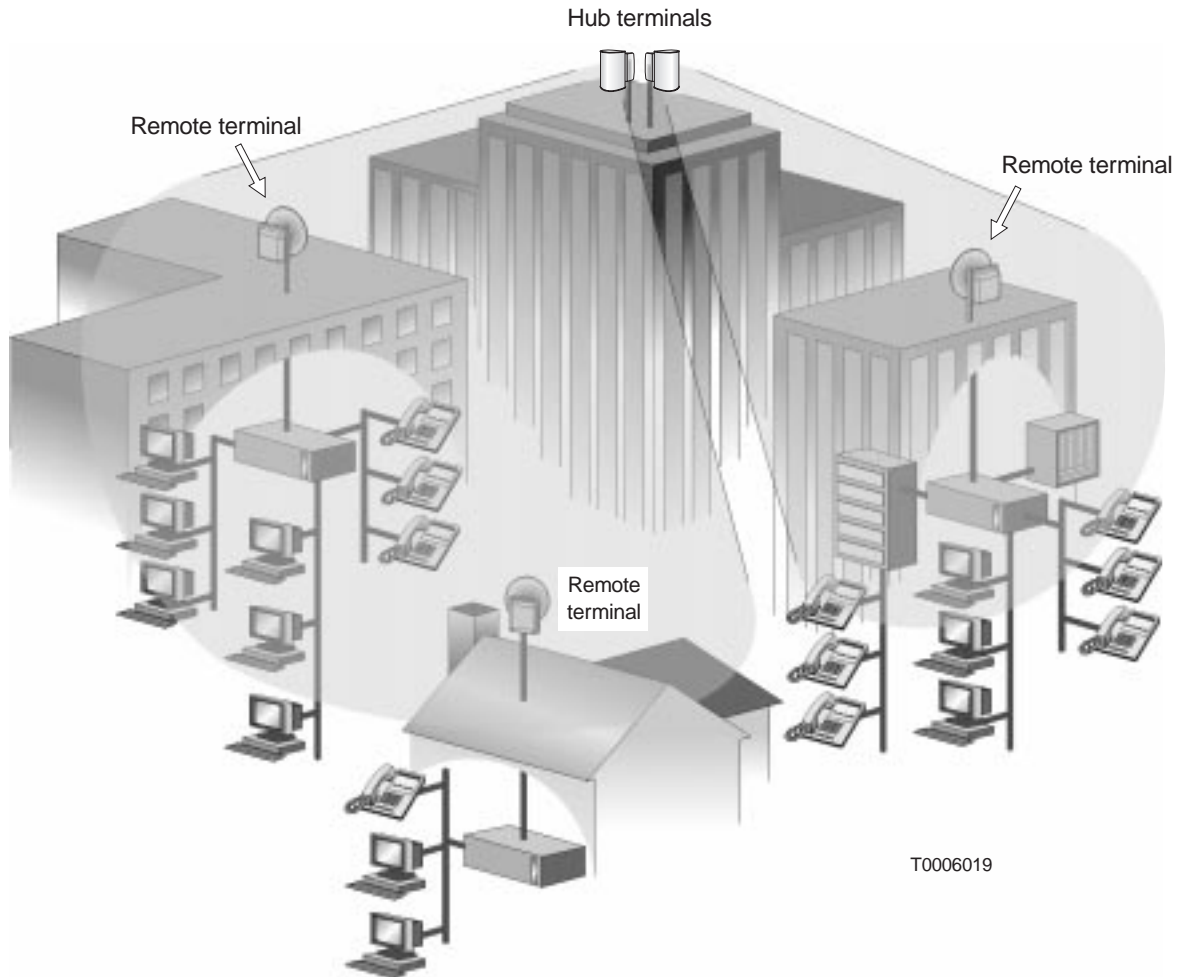
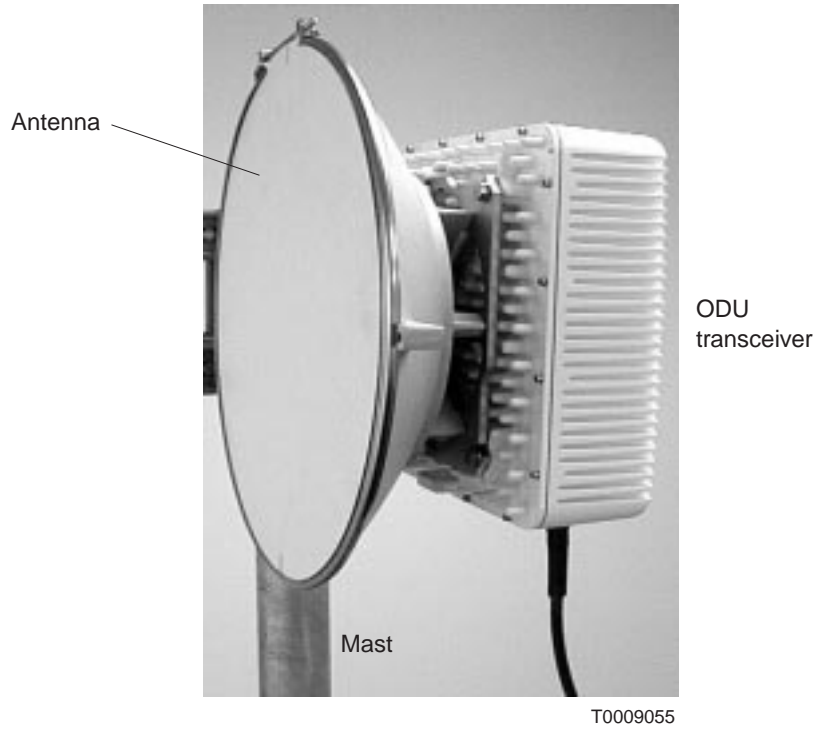

Figure 6-1 Hub ODUs communicating with RT ODUs
Figure 6-2 ODU (installed)
For conceptual reference, figure 6-1 illustrates how hub terminal (HT) ODUs communicate with remote terminal (RT) ODUs. The remote terminal (RT) outdoor unit (ODU) and integrated antenna attach to a mount installed on a vertical or horizontal mast, as shown in figure 6-2.